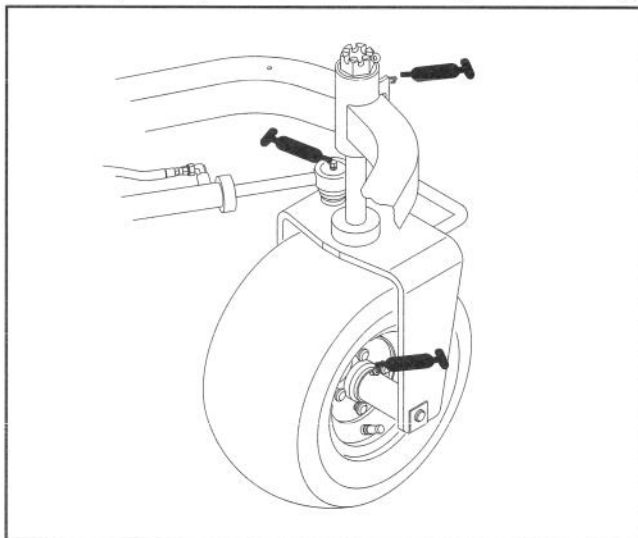
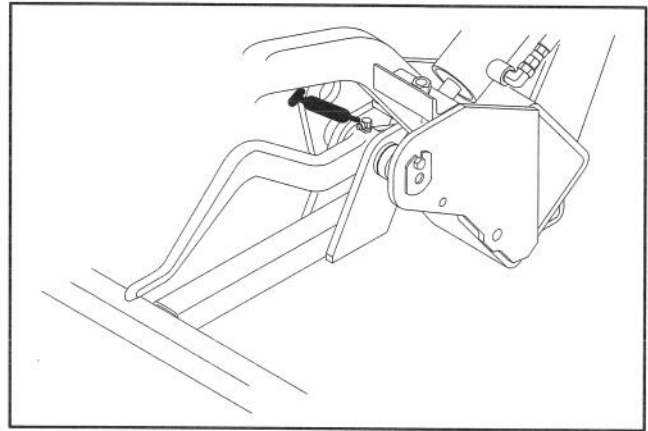
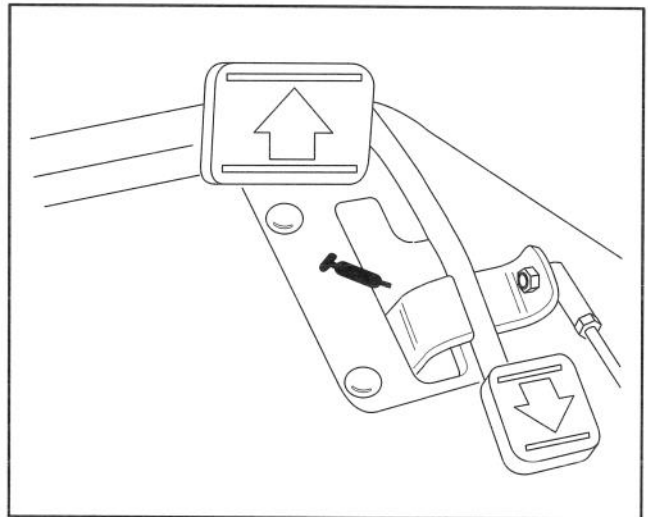

Figure 24
Figure 25
Figure 26
The traction unit bearings and bushings that must be lubricated are: Rear wheel hub (1), Castor bearing (1), Steering cylinder (2) (Fig. 24), Lift arms (3) (Fig. 25), Traction pedal pivot (1) (Fig. 26).